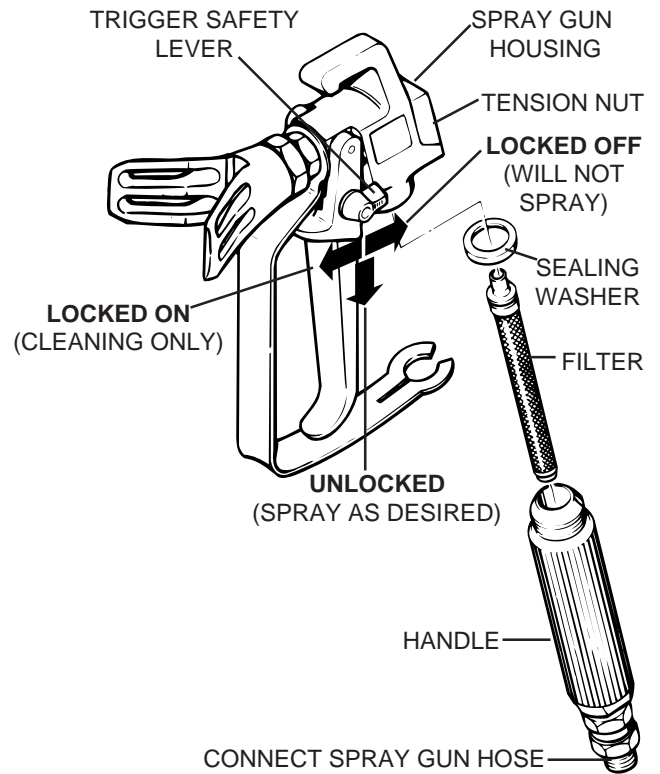

Figure 6.-Spray Gun Filter Assembly and Trigger Safety Lever position.
- Put the spray gun filter on the gun as shown in Figure 6. First remove the handle from the spray gun housing. Stick the small end of the filter firmly in the spray gun housing. Then screw the handle back on. See Page 26 for Optional Filters.
- Test the trigger tension by unlocking the trigger safety lever and pulling back trigger. To increase tension, turn tension nut (see Figure 6) clockwise. To decrease trigger tension, turn tension nut counterclockwise. After adjusting trigger tension, lock trigger safety lock in locked off position as shown in Figure 6.
13. UNLOCK SPRAY GUN TRIGGER — When the trigger is unlocked, the trigger safety lever will point in the same direction as the trigger (see Figure 6).